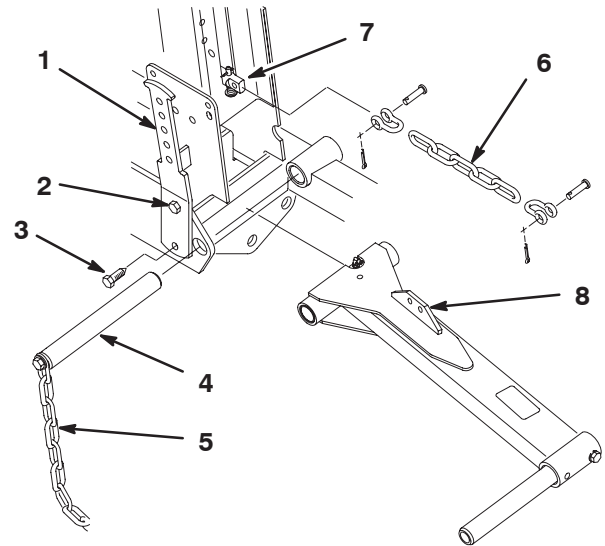

Figure 5
- Loosen the top capscrew securing the left counterbalance arm to the frame (Fig. 5).
- Remove the bottom capscrew and nut securing the left counterbalance arm to the frame (Fig. 5).
- Rotate the counterbalance arm outward, allowing removal of the lift arm pivot pin and tipper chain (Fig. 5).
- Position the lift arm between the frame members, align the mounting holes, and install the pivot pin (Fig. 5). Insert the pivot pin so that the counterbalance arm fits into the slot in the pin. Do not secure the counterbalance arm at this time.